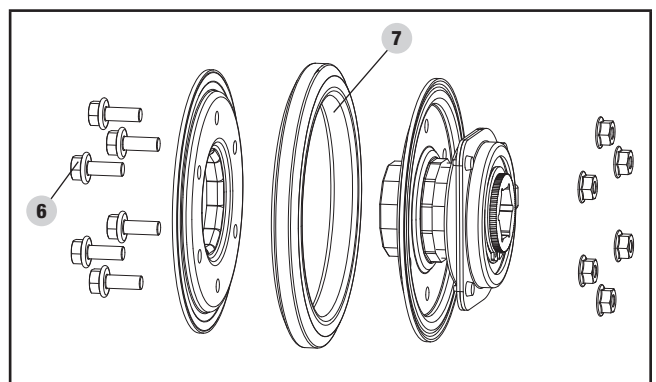

Figure 30
6. Unscrew the six M6 × 16 bolts (6) of the friction disc assembly to discard the worn friction wheel rubber ring (7) and replace with a new one (Fig. 30).